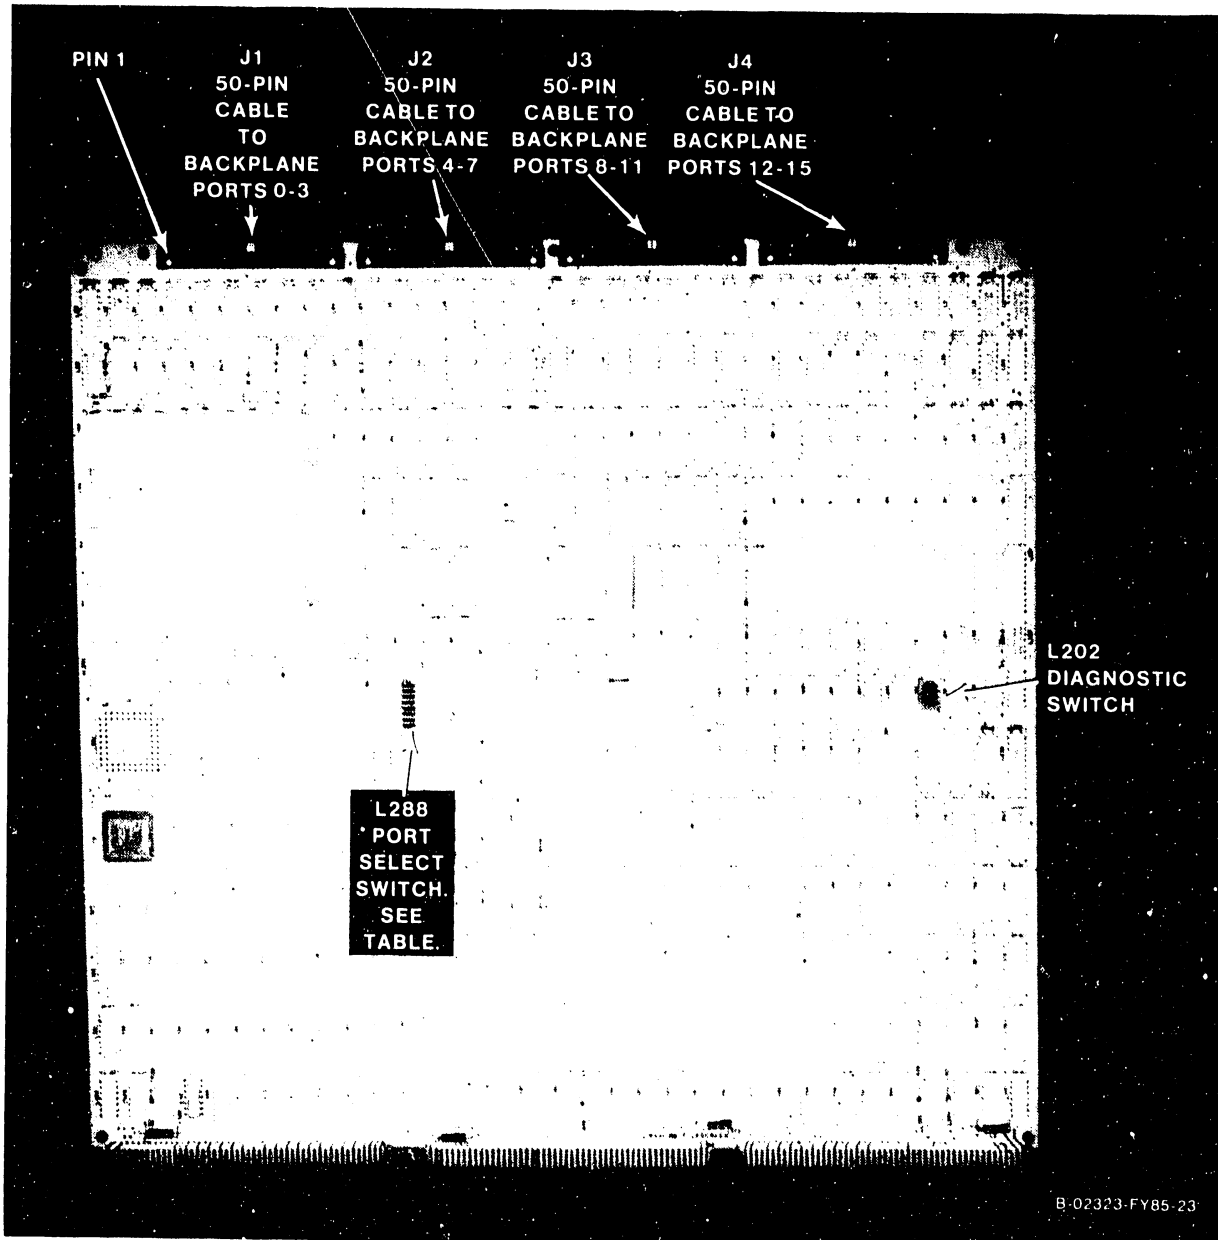

Figure 5-33. 23V96 Multiline TC (MLTC) IOC
2. Disconnect all cables from the top of the 23V96 Multiline TC IOC (figure 5-33). Note the position of all cables for later reassembly.
5. Check the 8-position port select loop back test switch at L228. (Figure 5-33, and table 5-9.) For normal power up, all switches are on.